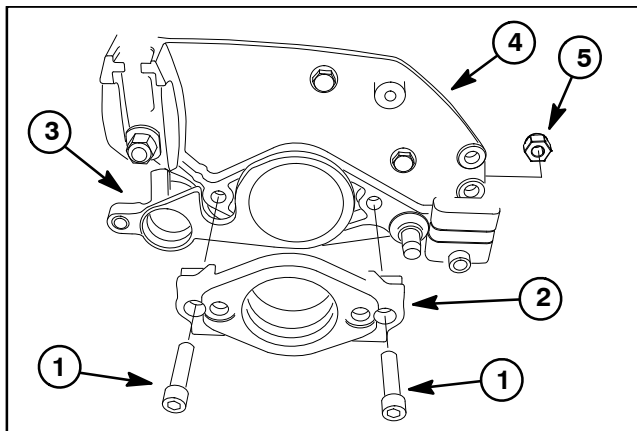

Figure 18
4. To remove support plate assembly from left side of cutting unit (Fig. 18):
A. Remove two (2) socket head screws and lock nuts that secure motor mount to cutting unit (Fig. 18). Remove motor mount from cutting unit.
D. Position motor mount to groomer support plate (Fig. 18). Secure motor mount and support plate to cutting unit with two (2) socket head screws and lock nuts.